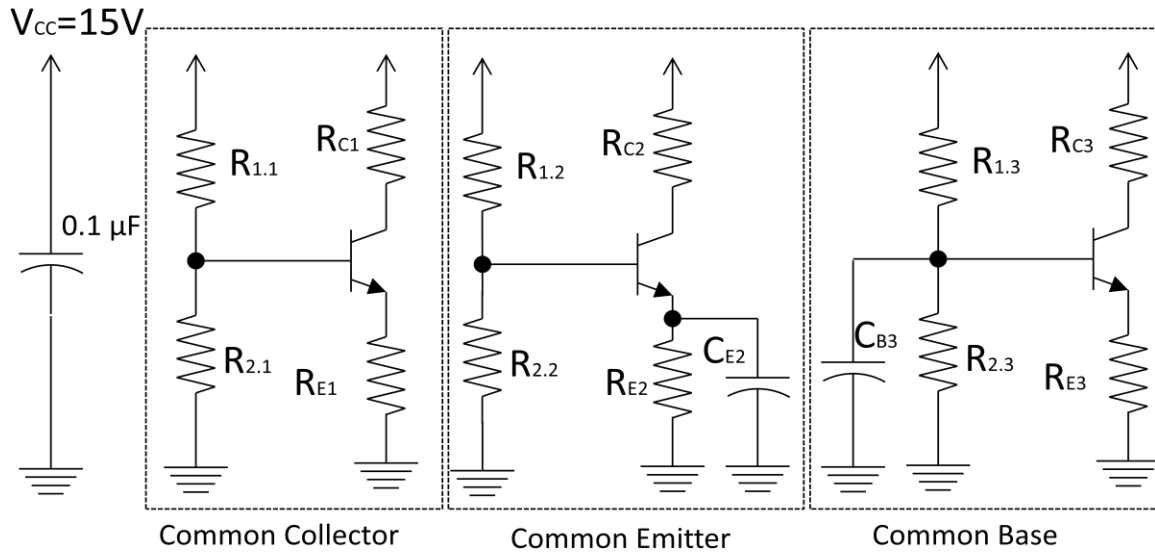

Figure 2.1 Schematic showing the 3 single transistor amplifiers
Construct the circuit shown in Figure 2.1. This circuit contains 3 separate amplifiers (you need to build all 3 at the same time on the same board). As you will be making high frequency measurements, you should keep your circuits neat and clean with as short wires as possible.
- Build the D.C. bias network (Fig. 2.1) on your circuit board. Your layout should be neat and compact such that access to the three terminals (E, B and C) of each transistor can be made easily. Measure all resistors before connecting the circuit to the bench supply.